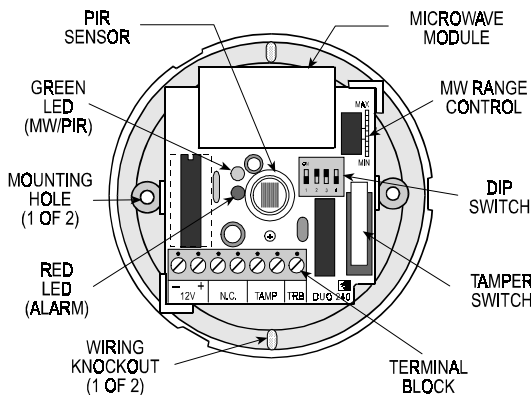
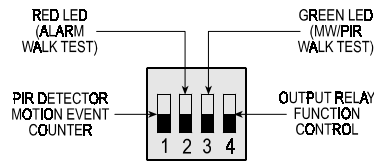

Figure 3. Component Layout
Figure 5. DIP Switch Mode Selector
B. Press the base against the ceiling in the selected location. Mark the two points for drilling through the mounting holes (see Fig. 3).
The two LEDs (Fig. 3), which are hidden behind the lens when the cover is installed, are visible through the lens when illuminated. They are used to signal various alarm and trouble messages as shown in Table 1 below:
The DIP switch mode selector is mounted on the unit's PC board (Fig. 3). It controls four functions as demonstrated in Fig. 5 and as detailed in Table 2.